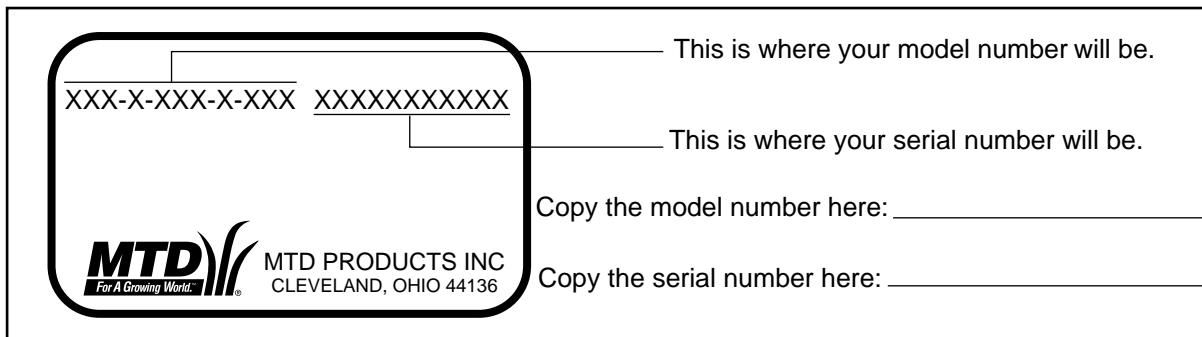

Figure 2
- The model plate will look like Figure 2.